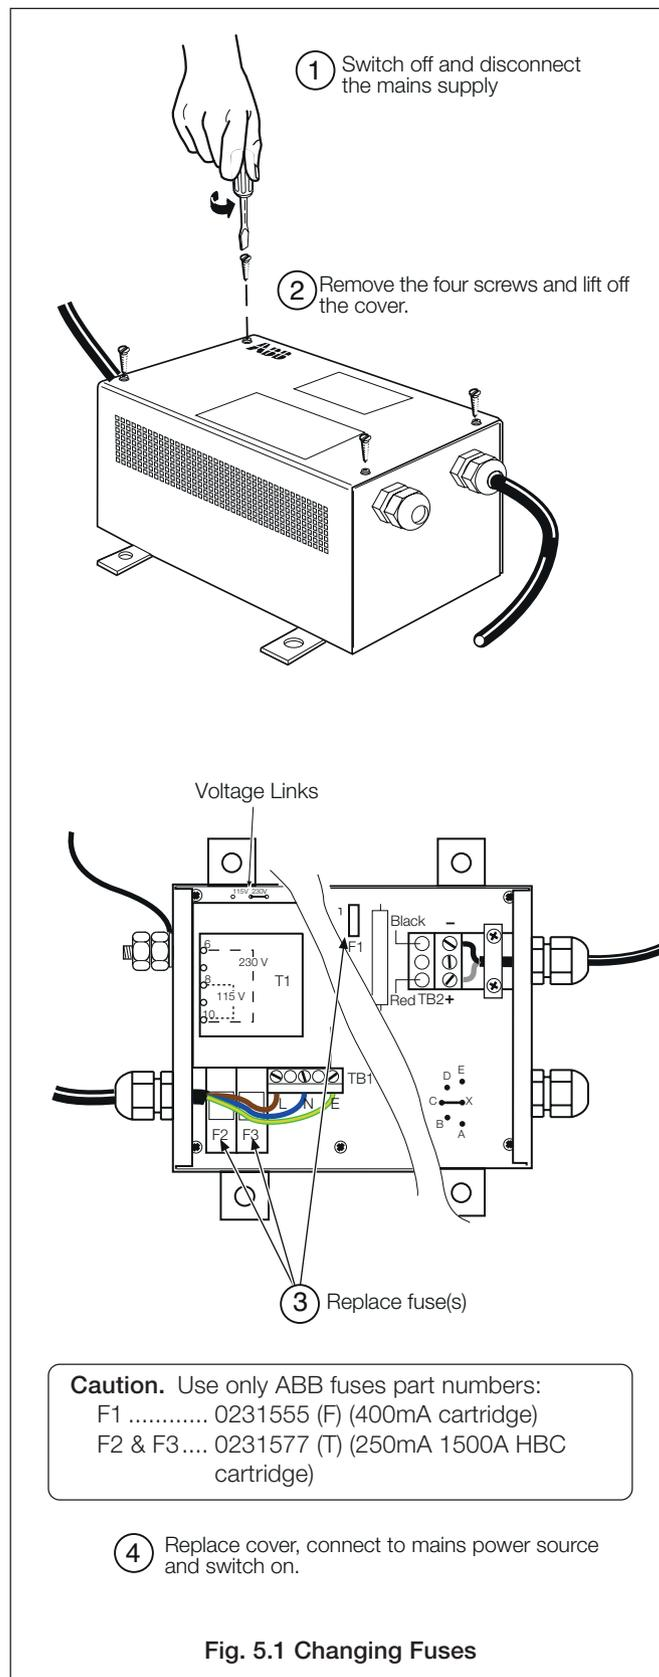

Fig. 5.1 Changing Fuses
5.3 Replacing Fuses – Fig. 5.1